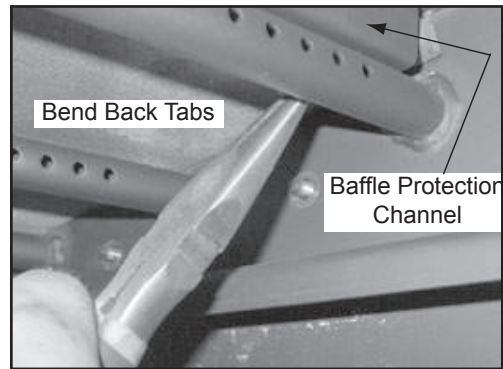

Figure 24.1
2. Remove the baffle protection channel by bending back the tabs using needle nose pliers located at the right and left side of the protection cover. Lift the cover up slightly and pull toward the front and out of the firebox. **Figure 24.1**